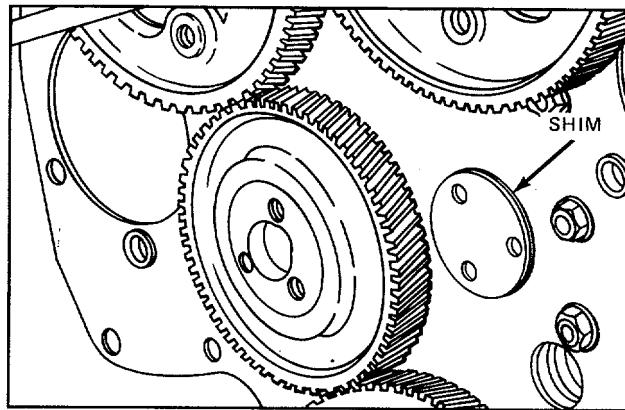

Figure 2. Location of Shim
3. If the flywheel housing has an integral cast hub, install a flywheel housing-to-end plate shim (0.015 inch thick). Use grease to hold the shim to the cylinder block rear end plate (Fig. 2).